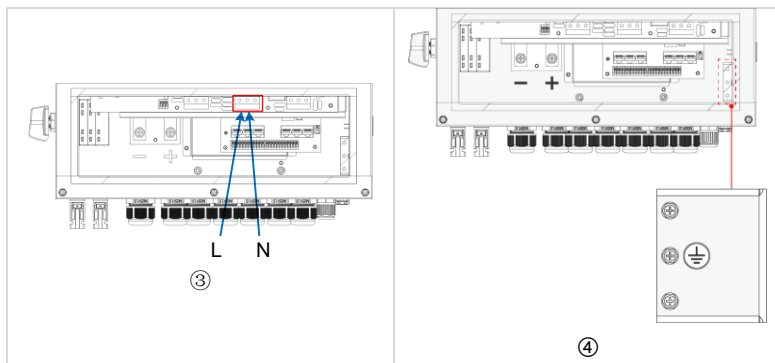

Figure 5-4 Load connection
Step 1 Prepare the wires needed for port BUCKUP, remove the insulation layer of the load output cable using a wire stripper according to the figure 5-4① shown below: A:20mm B:10mm.
Step 2 The prepared cable is inserted through the BUCKUP port as shown in Figure 5-4② below.
Step 3 The cables after connection shall be connected to the ports according to L and N respectively, and the grounding wire should be firmly connected to the PE bar inside of the inverter, as shown in Figure 5-4③ and ④ below.